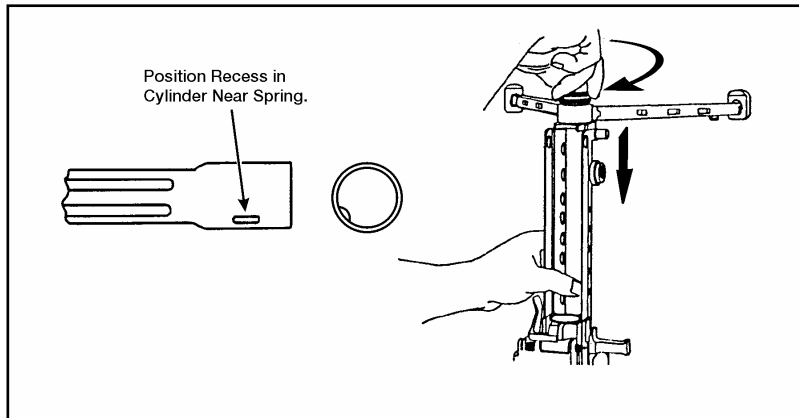

Figure 071-312-4025-22. Replacement of the bipod and gas cylinder
(1) Place the bipod on the receiver.
(2) Push the gas cylinder through the bipod yoke into the receiver.
(3) Push the cylinder to the rear. Counter the pressure of the locking spring and guide the end of the cylinder into the receiver, with your other hand applying downward pressure. When you have fully inserted the gas cylinder, rotate it until the spring clicks into place in the recess at the rear of cylinder (figure 071-312-4025-22).